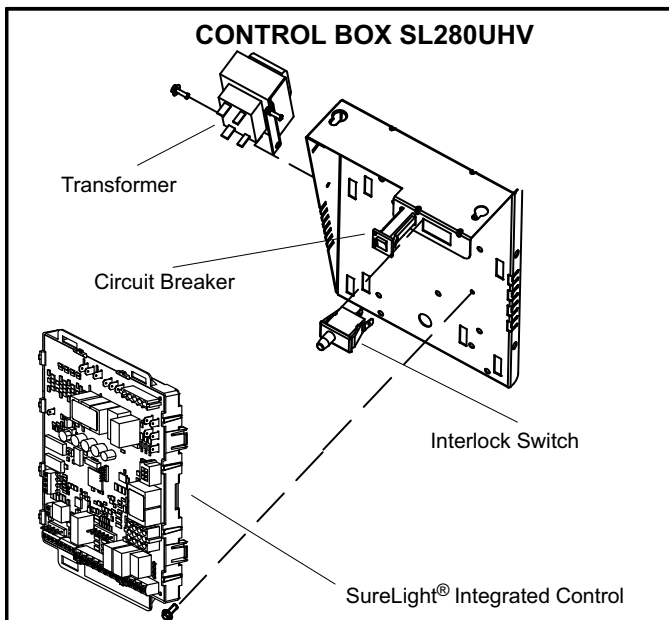

FIGURE 2
SL280UHV(X) unit components are shown in figure 1. The gas valve, combustion air inducer and burners can be accessed by removing the access panel. Electrical components are in the control box (figure 2) found in the blower section.